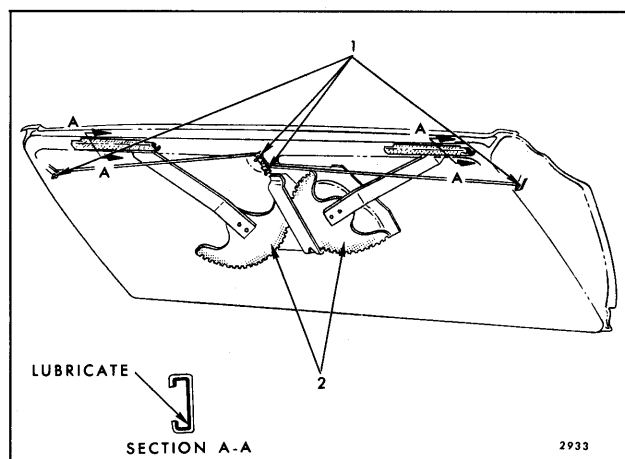

Fig. 2-11—Tail Gate Window Regulator, Cams, and
1. Apply white lithium soap grease lubricant (Lubriplate 630 AAW or equivalent) to the pivot points of the connecting rods indicated 1 in Figure 2-11.
2. Coat the entire length of the inner surface of all cams with Lubriplate 630 AAW or equivalent as shown in the cross section "A-A" in Figure 2-11.
3. Apply Lubriplate 630 AAW or equivalent to the teeth of the sector gears at points 2 as shown in Figure 2-11.